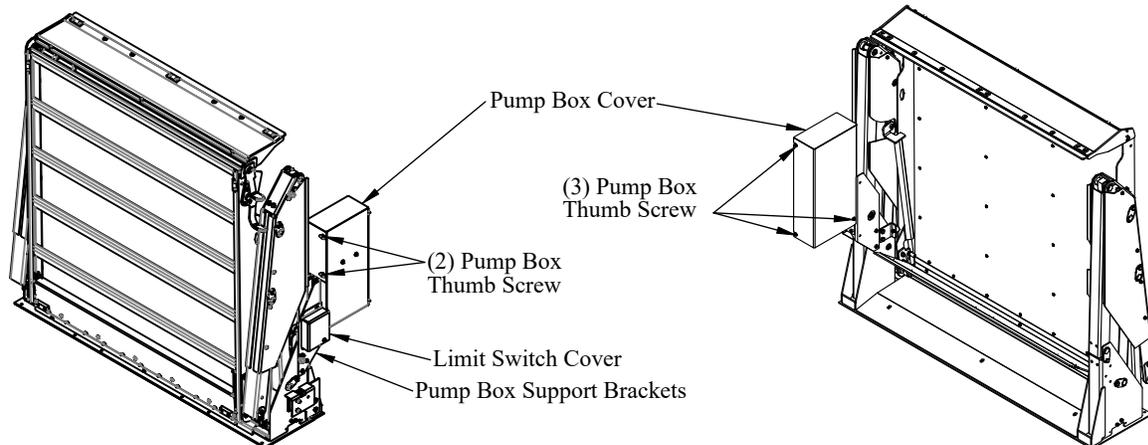

Figure 4: Pump box.
1. **Remove** the pump box cover by removing five (5) thumb screws (Figure 4).
2. **Remove** and **Save** limit switch cover (Figure 4).
15. **Remove** and **Save** four (4) 5/16" bolts with lock washers and nuts attaching pump box to support brackets (Figure 4).
23. **Replace** limit switch cover (Figure 4).
10. **Install** the pump box cover and screws (Figure 4). Make sure the wires and solenoids clear the cover.